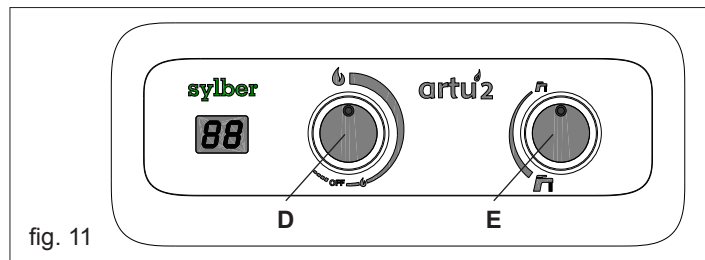

fig. 11
- remove the knobs D-E (fig. 11)